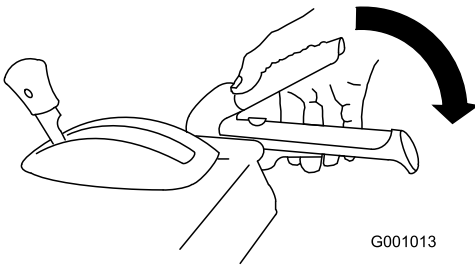

Figure 34
1. To engage the auger/impeller drive, squeeze the right (auger/impeller) lever to the handgrip (Figure 34).